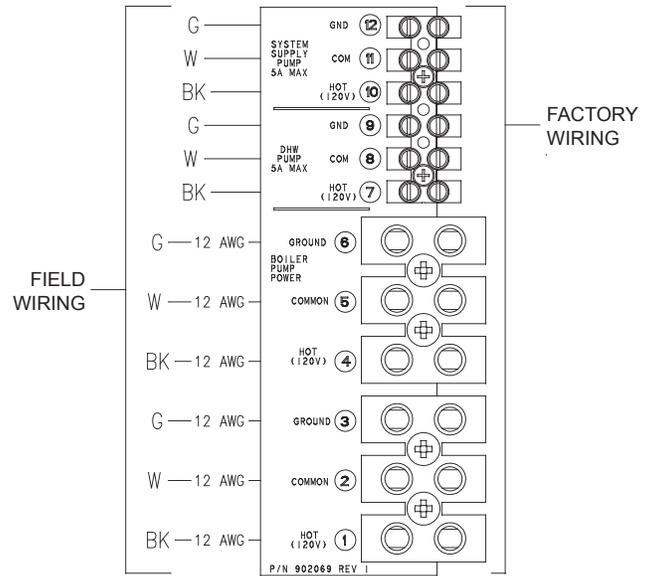

Figure 32. Cascade Master-Pumps
1. On the heater designated as the Master, connect the system pump enable wiring to the field-wiring terminal block inside the junction box. The connections are dry contacts rated for pilot duty only (5A maximum). See Figure 32.